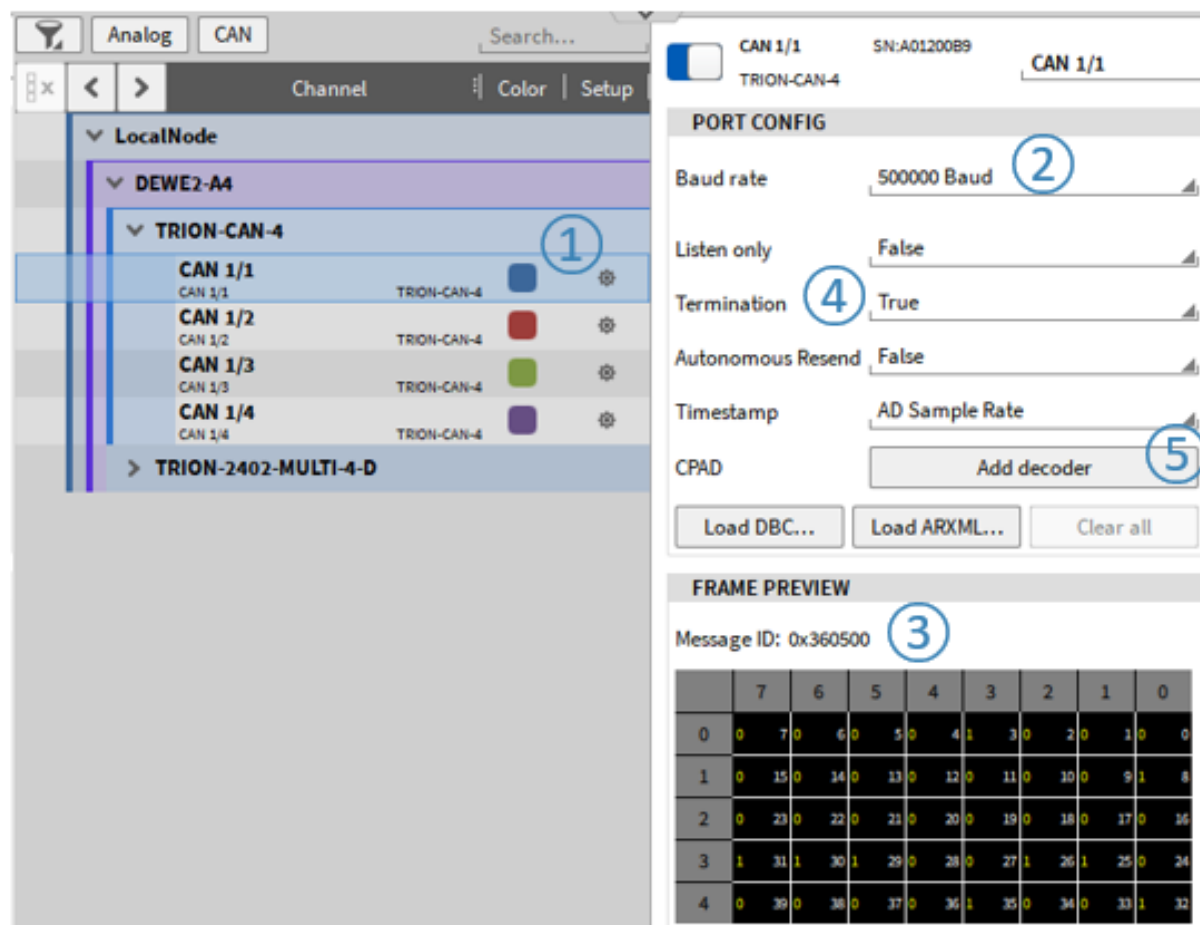
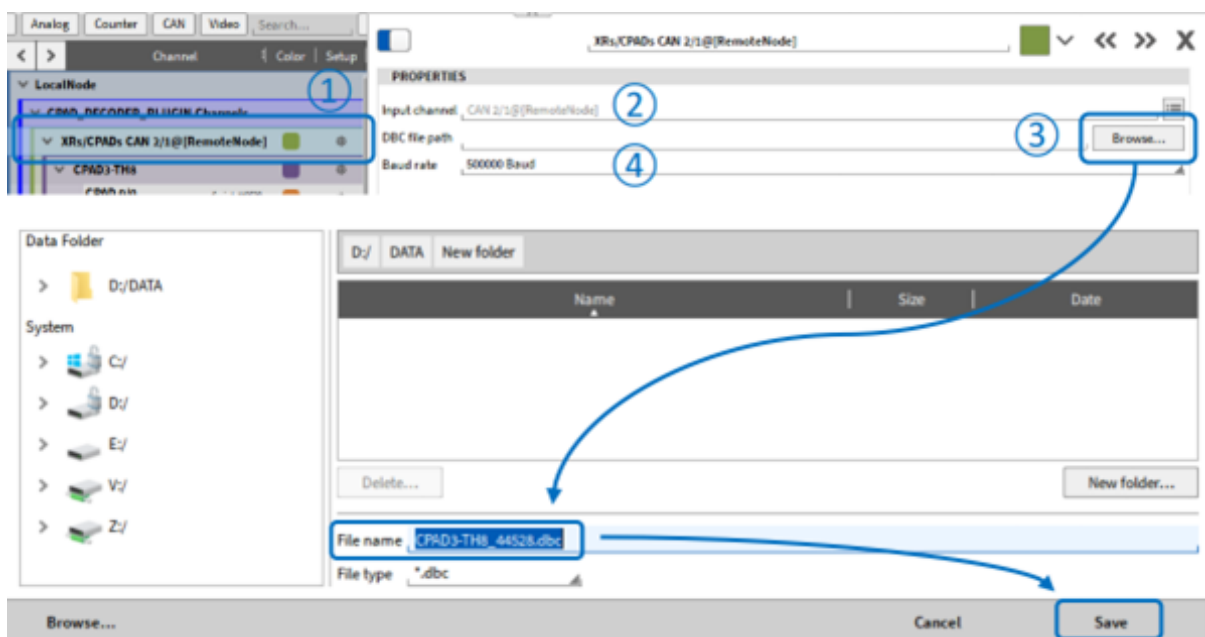

Fig. 4.32: Adding a CPAD decoder
Fig. 4.34: CPAD decoder settings
- Connect the CPAD to the desired CAN port and open its Channel settings in the Channel List (see ① in Fig. 4.32).
- Select the Baud rate of the CPAD (see ② in Fig. 4.32)
- If you don't know the CPAD's Baud rate change the Baud rates until the Frame Preview shows alternating Message IDs and frames (see ③ in Fig. 4.32)
- Make sure that the CAN bus is terminated with a 120 Ohm resistor or set the internal module termination to True (see ④ in Fig. 4.32)
- When the Baud rate is set up correctly press Add decoder (see ⑤ in Fig. 4.32)
After creating the CPAD decoder, the detected CPADs and their channel can be found in the channel list (see ① in Fig. 4.34). If desired, the referring CAN port can be changed (i.e. when a CPAD is connected to a different port) by selecting a different CAN port in ② in Fig. 4.34. The module baud rate can be changed here as well (see ④ in Fig. 4.34) in addition to the synchronous timestamp forcing equidistant timestamps if "True" ⑤. Make sure to change the CAN bus baud rate as well to properly receive and decode data in ② of Fig. 4.32.
Additionally, the configuration of the CPAD / XR can be saved into a DBC-file here (see ③ in Fig. 4.34).